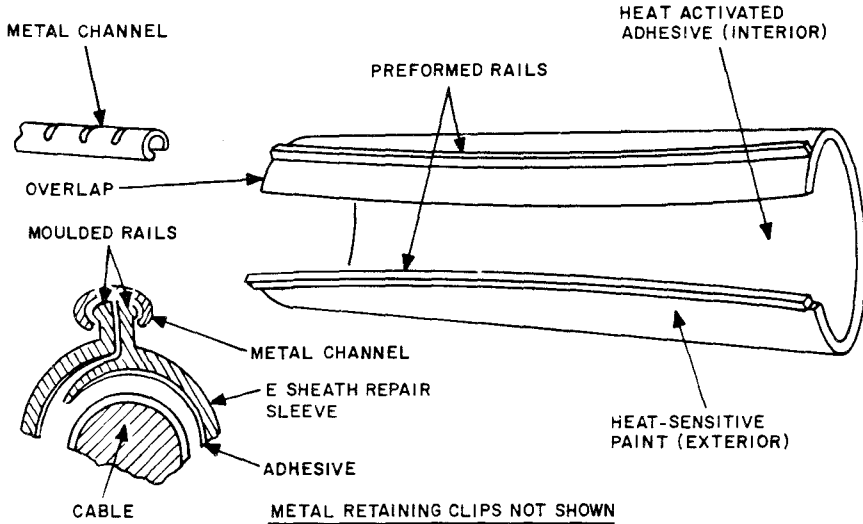

Fig. 2—E Sheath Repair Sleeving
4.01 The E sheath repair sleeve (Fig. 2) is a heat-shrinkable split plastic sleeve.